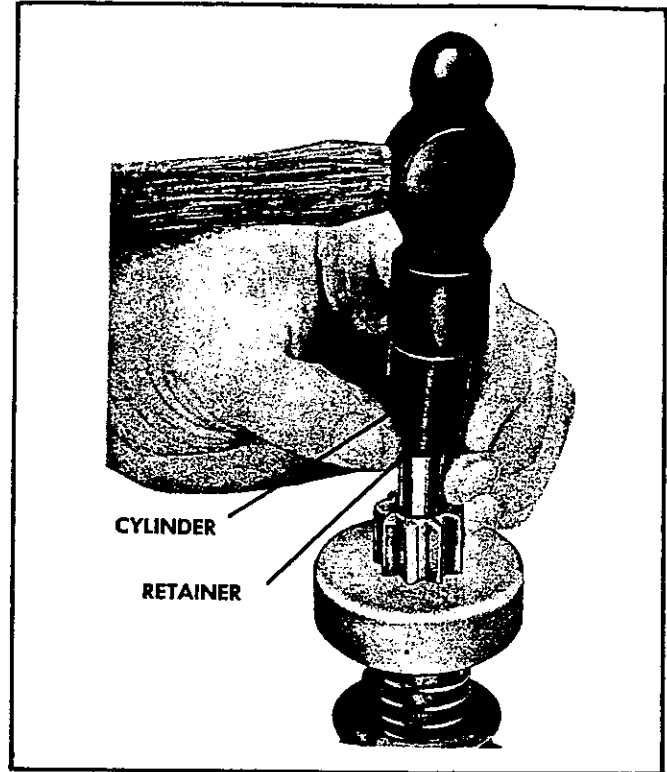

Fig. 129—Removing Retainer from Snap Ring
- Remove the pinion from the armature by sliding a metal cylinder onto the shaft, with a hammer striking the metal cylinder against the retainer, drive the retainer towards the armature core and off the snap ring. See Fig. 129.